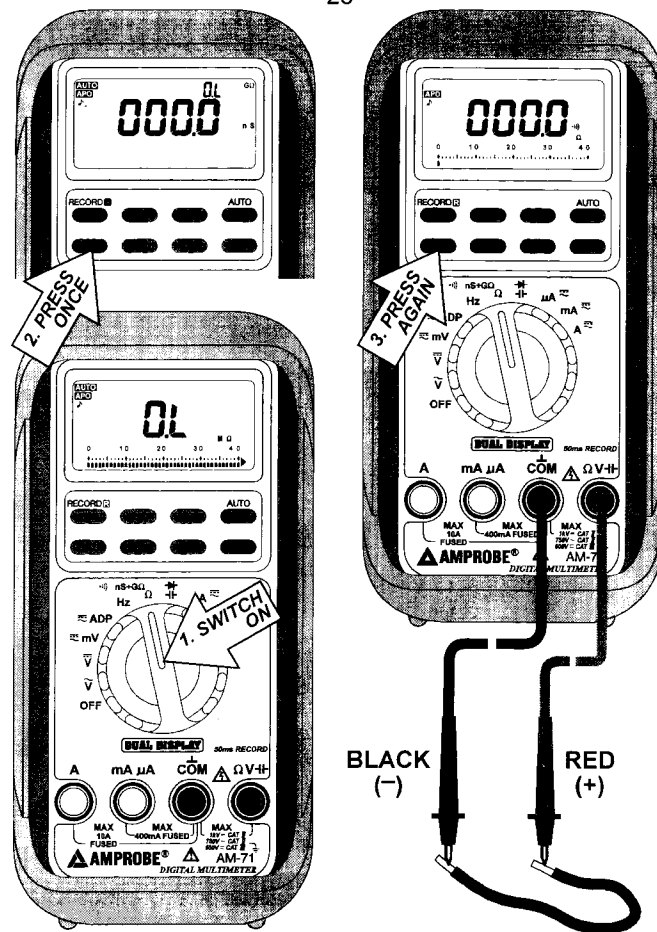

FIG 9. ••• AUDIBLE CONTINUITY FUNCTION
- 4) Connect the test leads to the end points of wire as shown in **FIG 9**